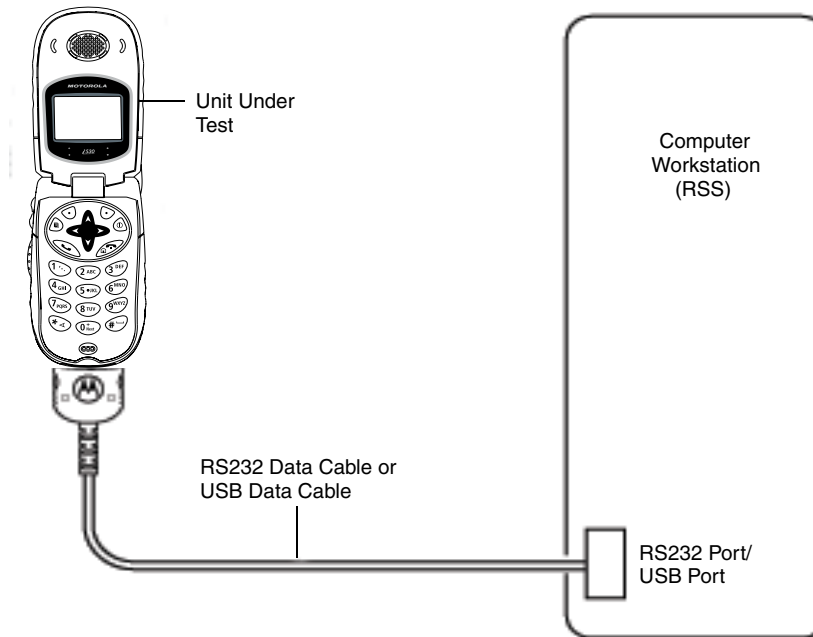

Figure 6-1. Data Cable Programming Setup
To prepare the unit for both codeplug and subscriber code programming using the data cable (Figure 6-1):
1. Set up your test equipment configuration. See Figure 6-1 for an illustration of this configuration.